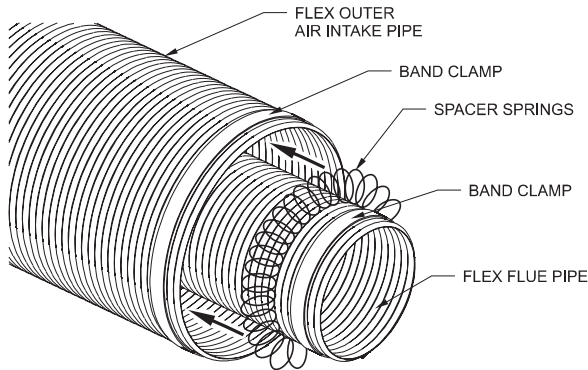

Figure 70
- Locate the inner flex vent (which has a pre-assembled flue collar connector) and attach the spacer springs by interlocking ends of the springs about 2 inches. The springs should be spaced evenly apart starting at 12 inches from the fireplace flue collar. See Figure 70.